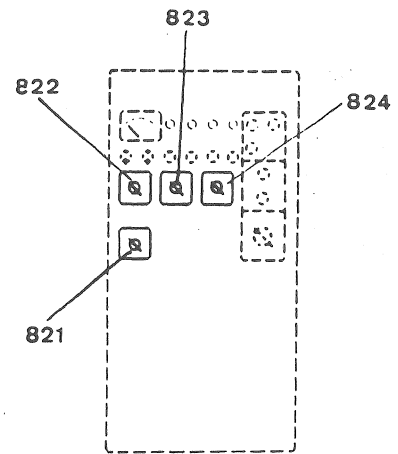

Fig 8
12.4 MACHINE START (fig. 8)
- Turn the main power switch (821) to "ON".
- Turn the hydraulic pump switch (823) to "ON".
- Turn the dielectric pump switch (824) to "ON".
- Turn the power-supplies switch (822) to "ON".